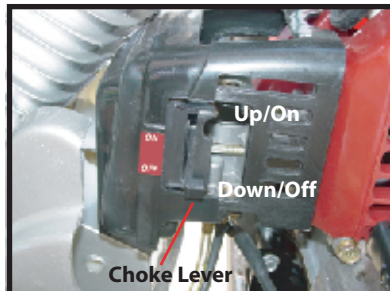

Fig. 2
5. Pull the choke lever up, to the "ON" position. (Fig. 2)